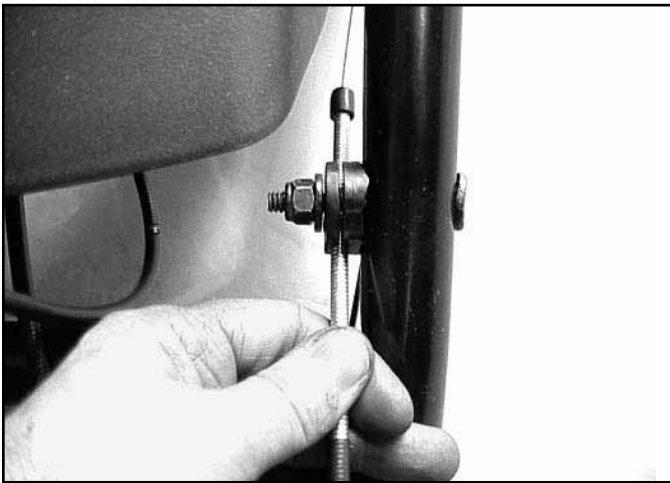

Fig 051
2. Remove nut and washer that attach the cable clamp to the handle (Fig. 051).